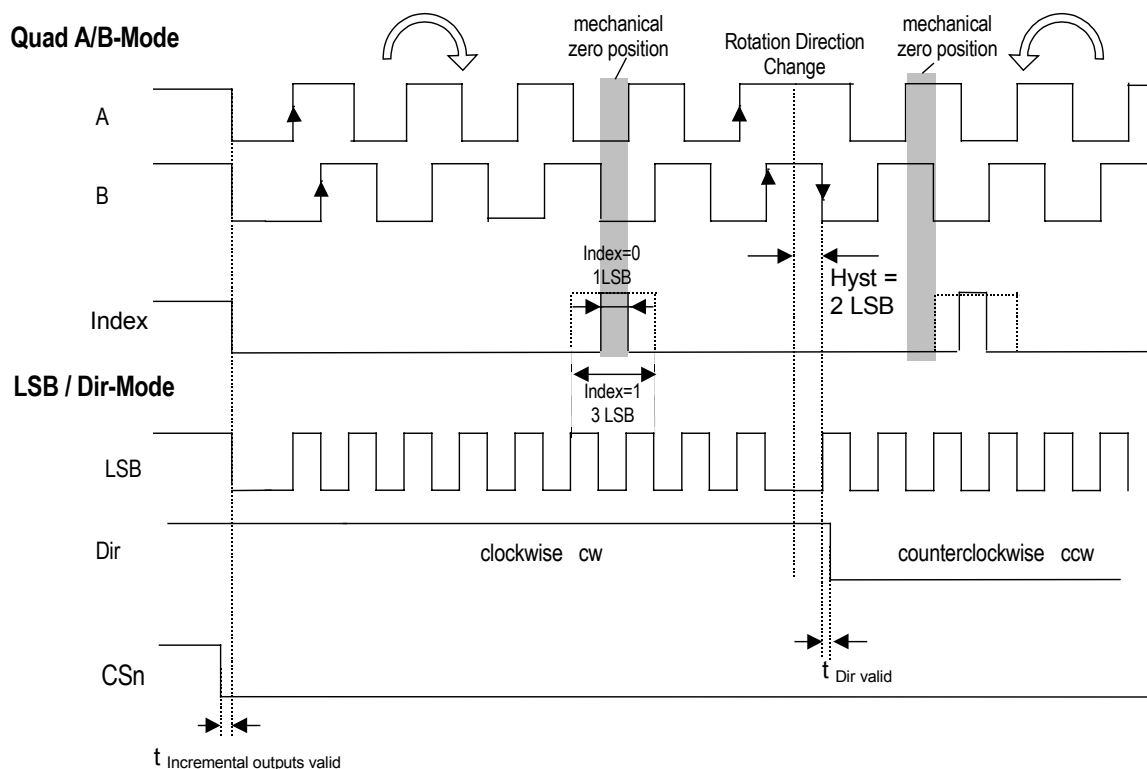

Figure 6: Incremental Output Modes
Figure 6 shows the two-channel quadrature as well as the single channel incremental signal (LSB) and the direction bit in clockwise (CW) and counter-clockwise (CCW) direction.